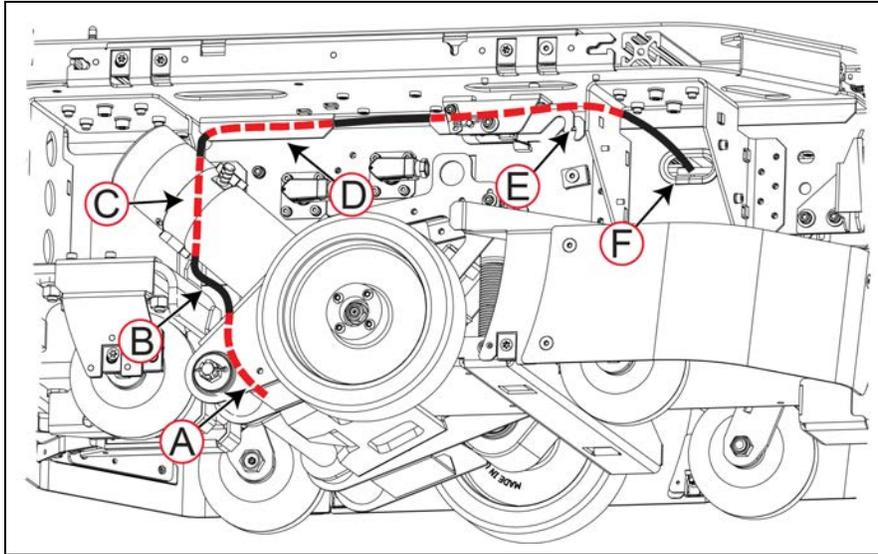

Figure 9-18 LD-250 Rear HAPS Sensor Cable Routing Into the Chassis
9. (Dual Only) Route the sensor cable as shown in Figure 9-18.